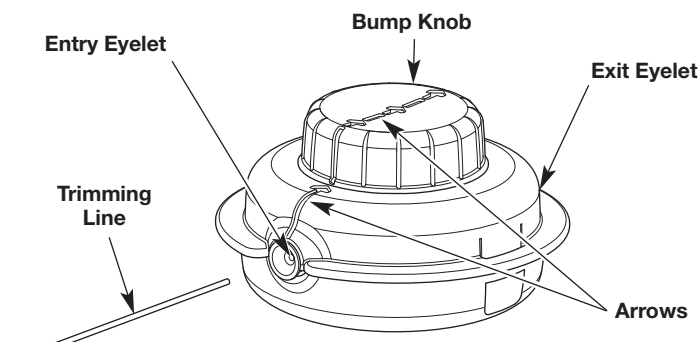

Fig. 16
- Turn the bump knob clockwise to align the arrows (Fig. 16).
- Insert the new trimming line into the entry eyelet (Fig. 16). Push the line through the cutting head until a few inches protrude from the exit eyelet. Pull the protruding line until approximately 10 feet (3 m) of line extends from each side of the cutting head. Make sure the line lengths on each side are equal.